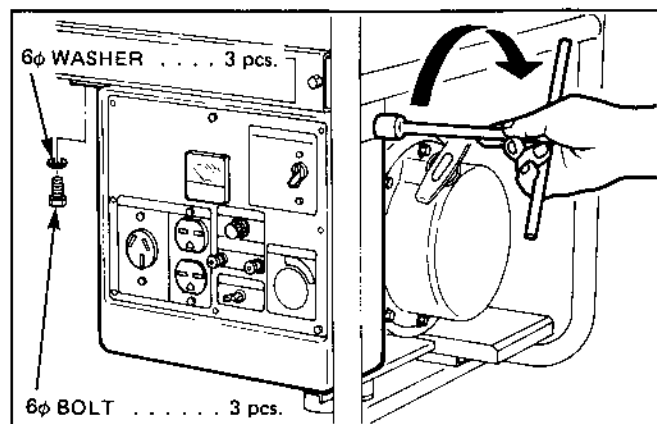

Fig. 10-42
- (1) Mount the control box to the frame. (See Fig. 10-42.)